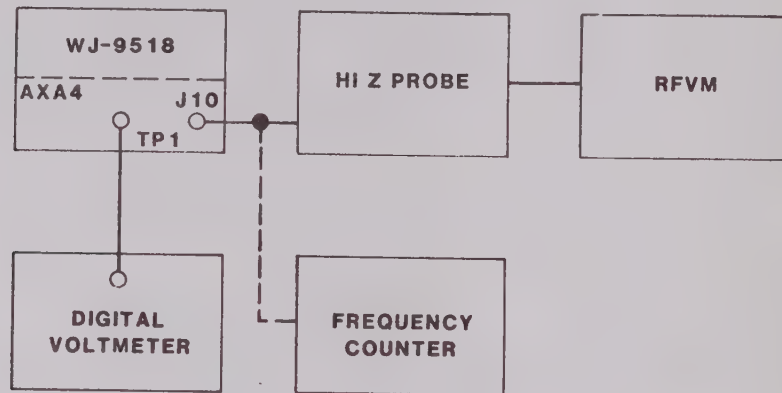

Figure 4-11. 2nd LO Alignment Procedures, Equipment Connections
- Connect the test equipment as illustrated in **Figure 4-11** by the solid lines and select DEMOD 1.
- With the digital voltmeter connected to AXA4 TP1, select the Upright (U) detection mode.
4. Select the Inverted (I) detection mode and observe that the voltmeter indicates 4.5 Vdc (+1 V, -2 V) typically. Verify the output frequency is 24.5 MHz. Disconnect the frequency counter and connect the RFVM. Verify the output level is -5 dBm (± 1 dB).